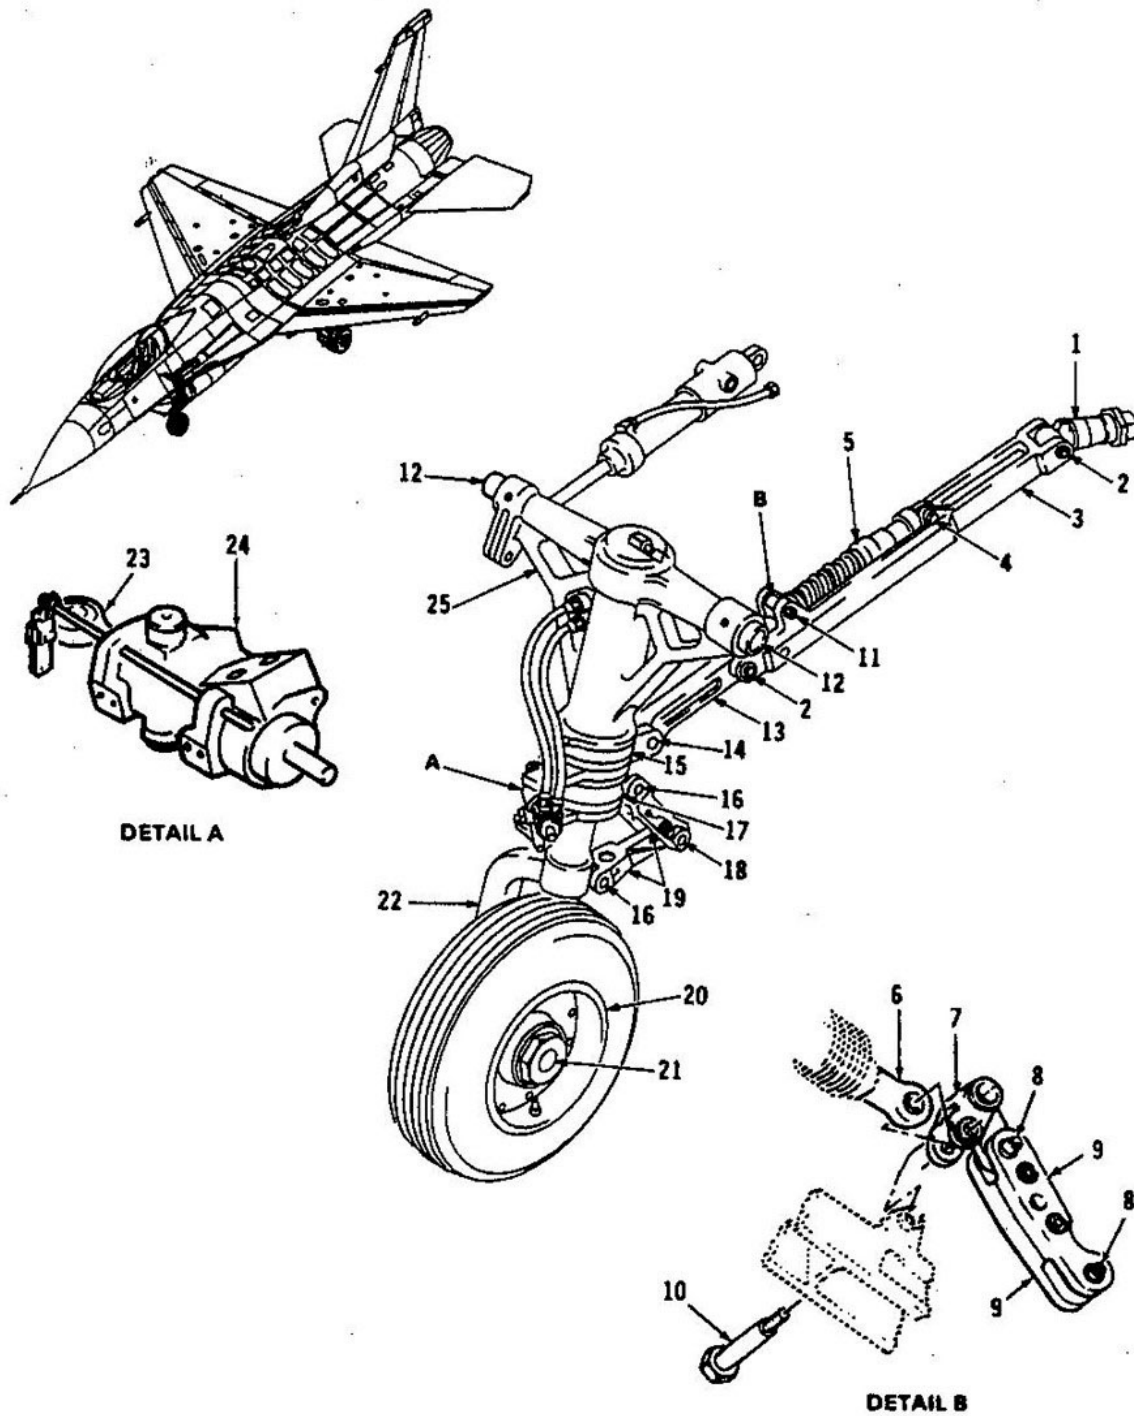

Figure 1-10. Structural group illustration.
2. Use the master table of contents or major structural group illustration (fig. 1-10) to find the applicable section of the manual. Refer to the table of contents at the beginning of the applicable section to find the specific figure or paragraph number for the part.